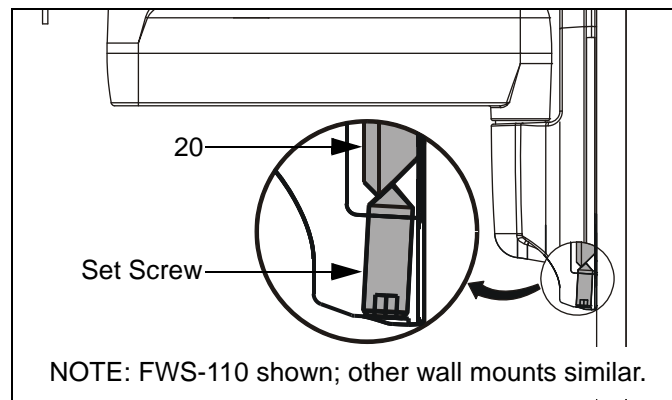

Figure 3: Tighten Set Screw
6. Tighten set screw using 5/32" hex key (See Figure 3). Ensure set screw engages *back* side of bracket (20) to properly secure mount.